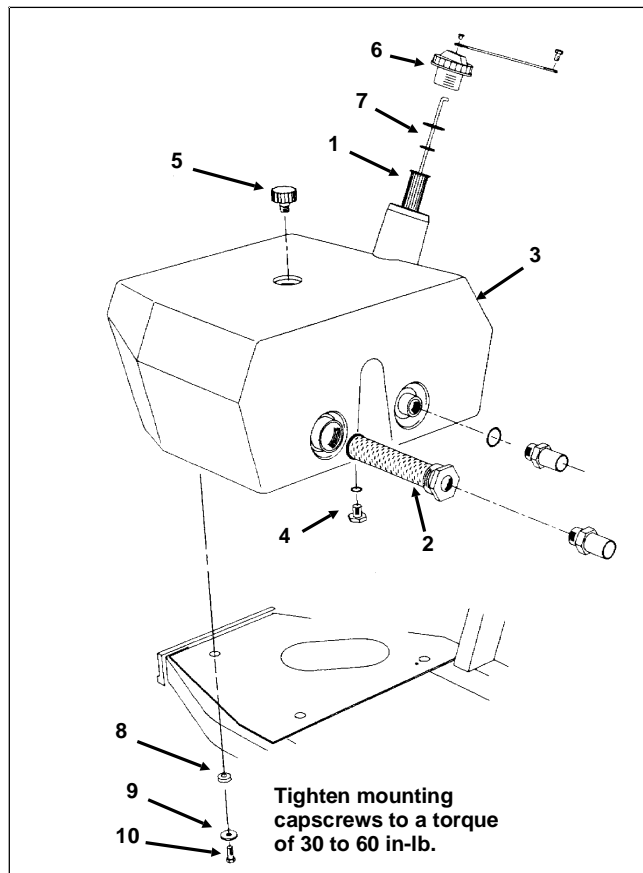

Figure 103
1. Clean filler screen, suction screen and reservoir with clean solvent (Fig. 103).